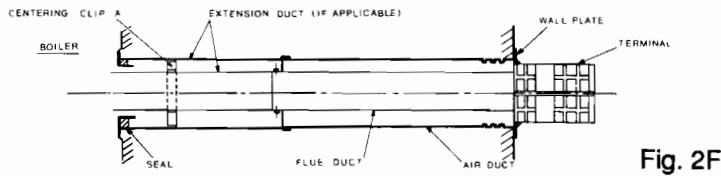

Fig. 2F
- 1.11. Fix the centering clip (A) at the plain end. (fig 2F)